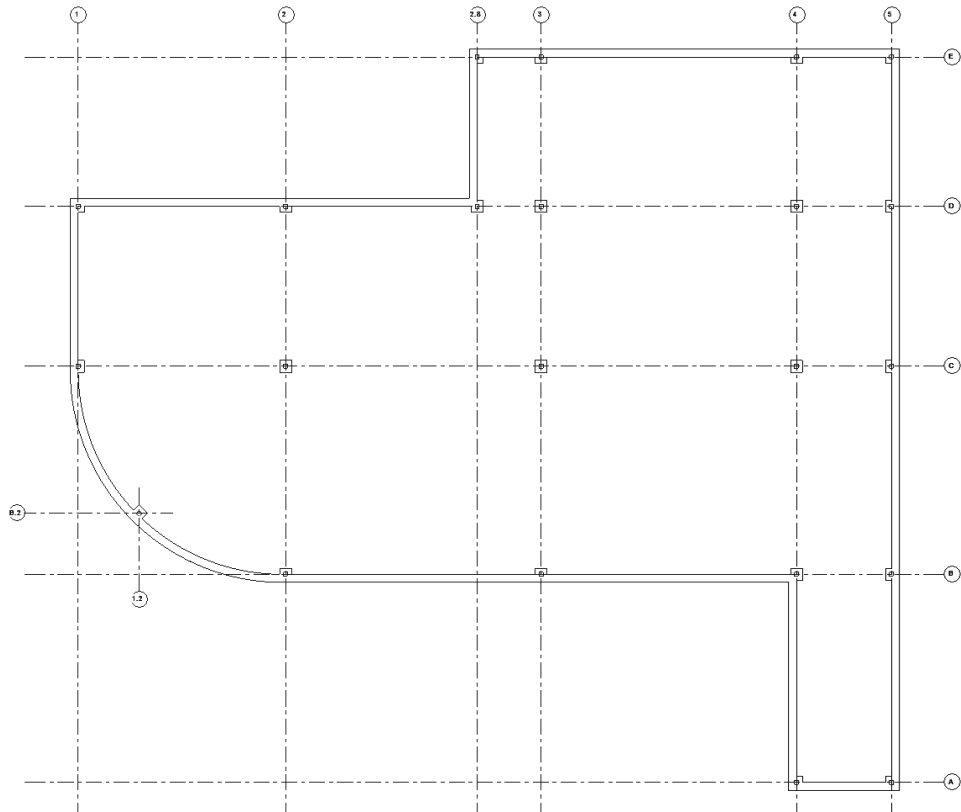

FIGURE 8-5.5 Level 1 slab and foundation plan; concrete columns added
22. Snap to the center point of each steel column, to place a concrete column (Figure 8-5.5).
Your plan should now look like the image below (Figure 8-5.5). Notice how the column and the foundation wall automatically joined. When placing the columns, you did not have an option to lower the top of the column down 8"; you will do that next. This will create an unrealistic condition at the exterior walls that will not be addressed in this tutorial; typically, a notch or reveal would be added to make a consistent bearing area for the column and its bearing plate.
23. Select and **Rotate** the concrete column (45 degrees) at the middle of the curved foundation wall (Figure 8-5.5).